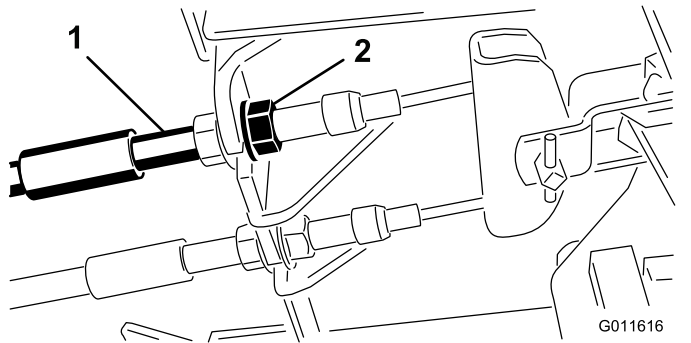

Figure 96
1. To reduce free travel of the brake pedals, tighten the brakes by loosening the front nut on the threaded end of the brake cable (Figure 96).